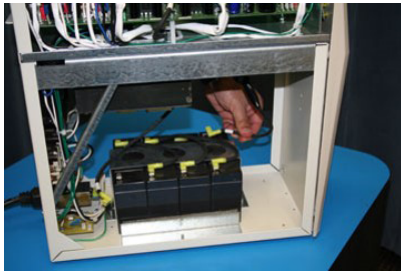

Fig 8.
8. Remove the positive wire (red color on battery) next. It may be helpful to lightly wiggle the connector while gently pulling the yellow wire lug as shown. Fig 8.